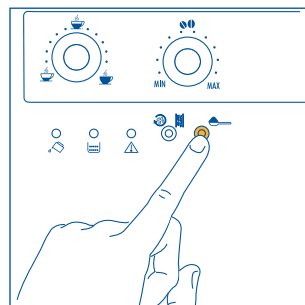

Fig.18
1. Press the  button to select the ground coffee function (Fig. 18). The ground coffee light will illuminate indicating the function has been selected and the coffee grinder has been disabled.